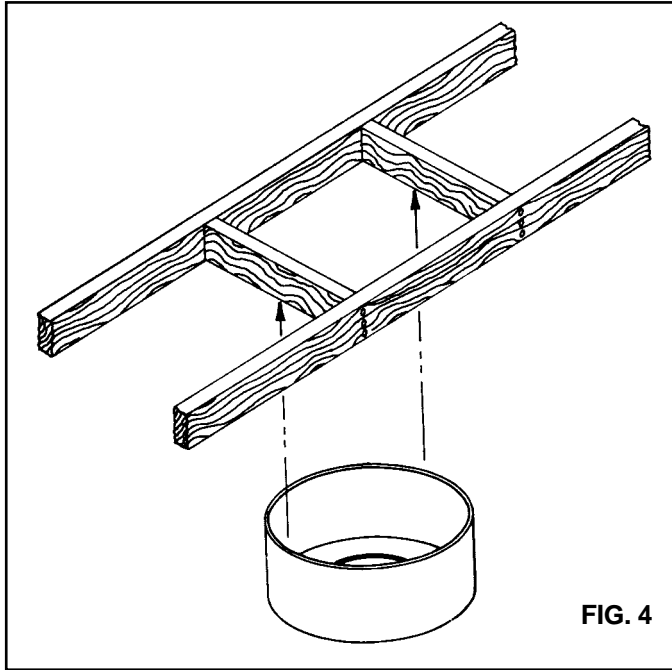

FIG. 4
1. Completely frame in (on all four sides) a properly-sized square opening. Select opening size so that outside wall of AmeriVent Bucket will contact framing at four sides. See Fig. 4.